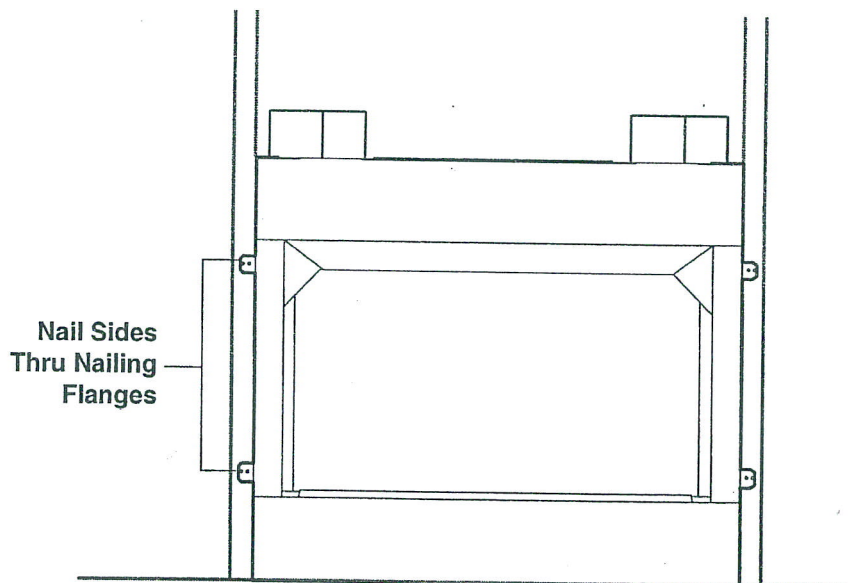

FIGURE 15
- Step 4.** Anchor firebox to the side framing members using 8d nails or other suitable fasteners. Refer to Figure 15 below.